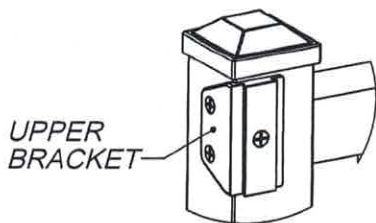

Figure 2
**STEP 2:** Install the Upper Bracket using (3) Flat Head Screws as near to the top of the Fence Post as possible (Figure 2).